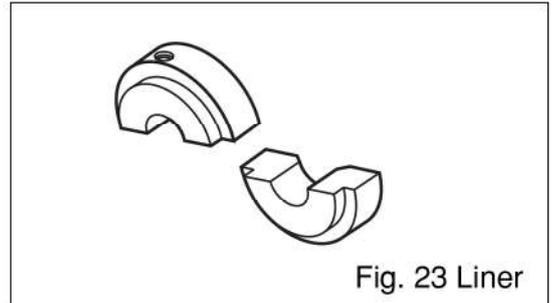

Fig. 23 Liner
## (2) Liners for tubes 5/8 and 3/4 in diameter (Fig. 23)